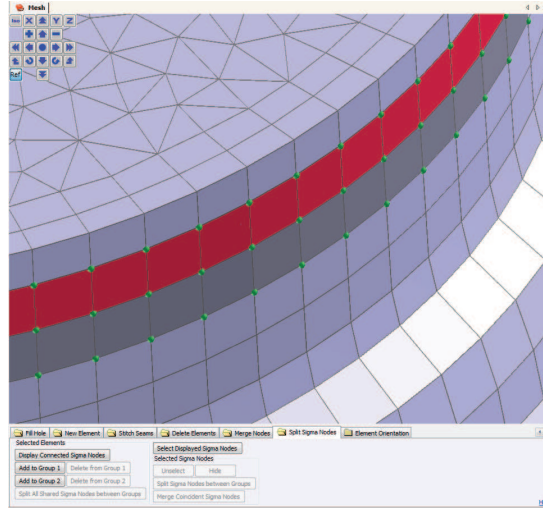
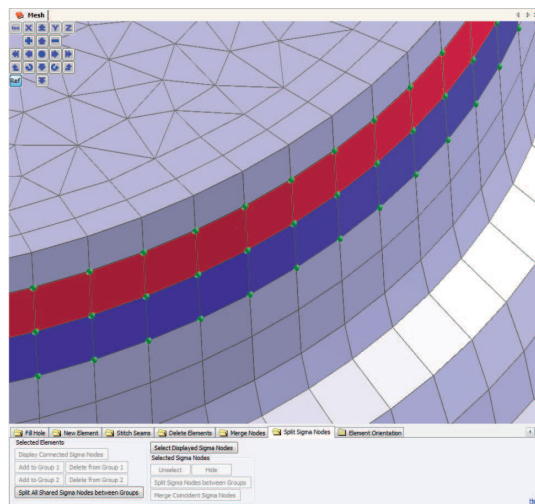

Figure 5.44: After adding elements to Group 1. Notice that the elements belonging to Group 1 are displayed in red.
Figure 5.45: After adding elements to Group 2. Notice that the elements belonging to Group 2 are displayed in blue.
- Left-click with *shift-key* held down to select elements and add them to Group 1 (Group 2) by clicking on **Add to Group 1 (Add to Group 2)**. See Figure 5.44 and Figure 5.45. The elements added to Group 1 are displayed in Red and the elements added to Group 2 are displayed in Blue. To delete elements from a Group, select the element and click on **Delete from Group 1 (Delete from Group 2)**. Note: We need to first create two different groups of elements between which common nodes are split.